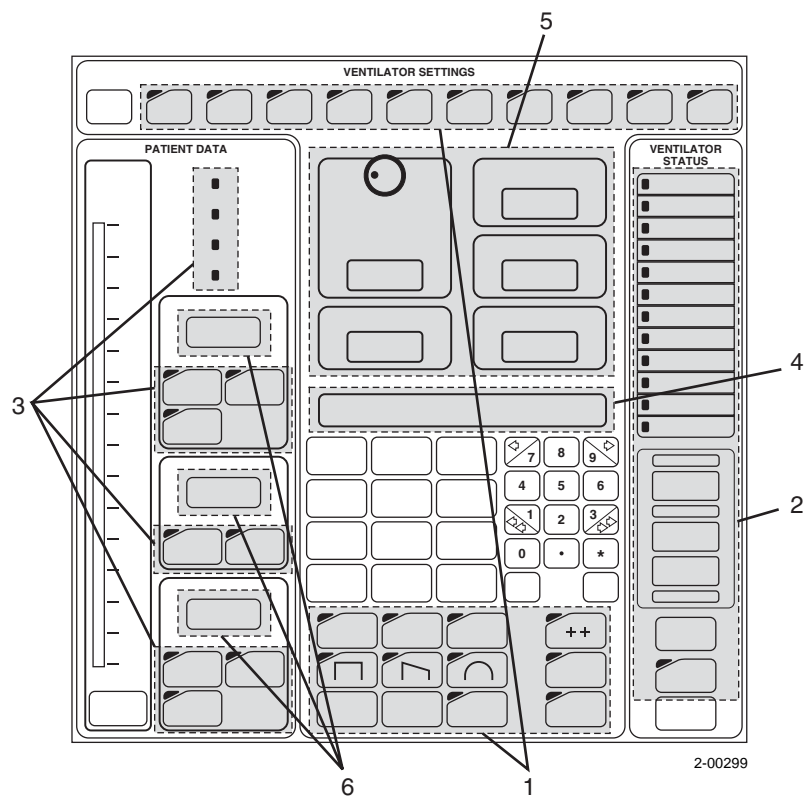
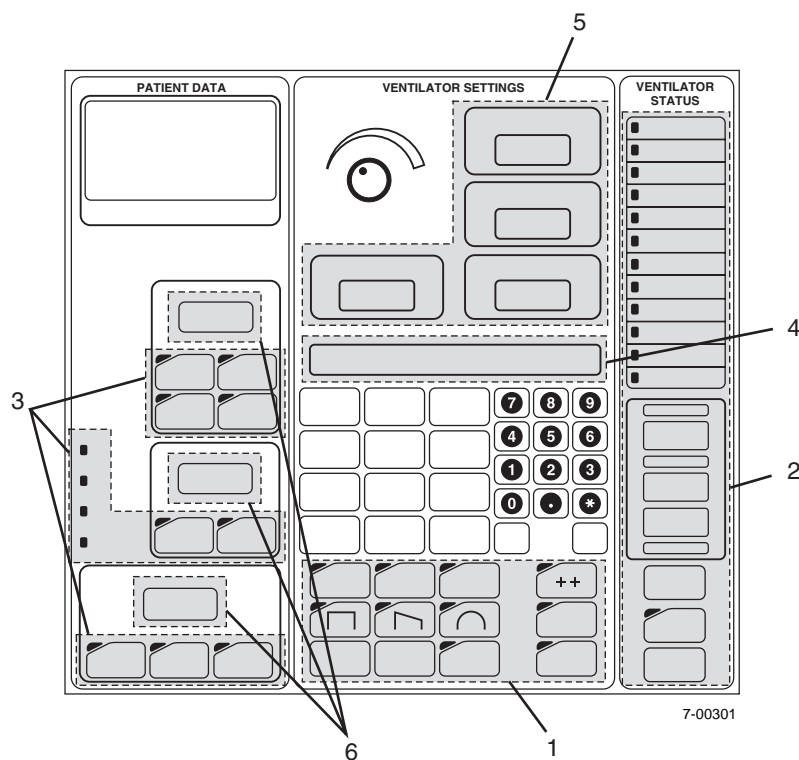
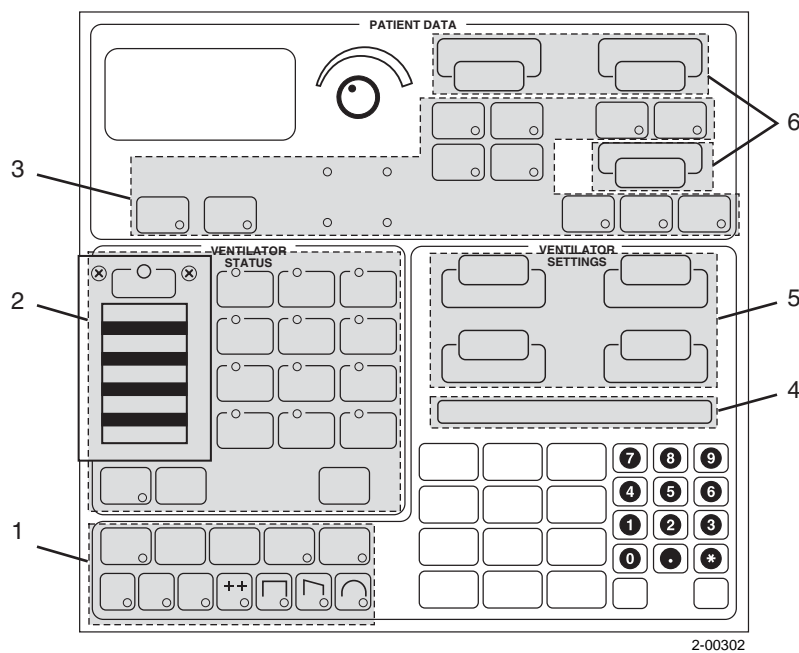

Figure 7-3. Enhanced-Plus Keyboard Lamp Test Sequence
Figure 7-4. Enhanced Keyboard Lamp Test Sequence
Figure 7-5. Basic Keyboard Lamp Test Sequence
3. **VERIFY** that all lamps, indicators, displays, the audio alarm, and the analog meter or bar graph LEDs (whichever is applicable) are activated in the sequence shown in Figure 7-3, Figure 7-4, or Figure 7-5. (See Section 7.8, *Item 9* for troubleshooting information.)